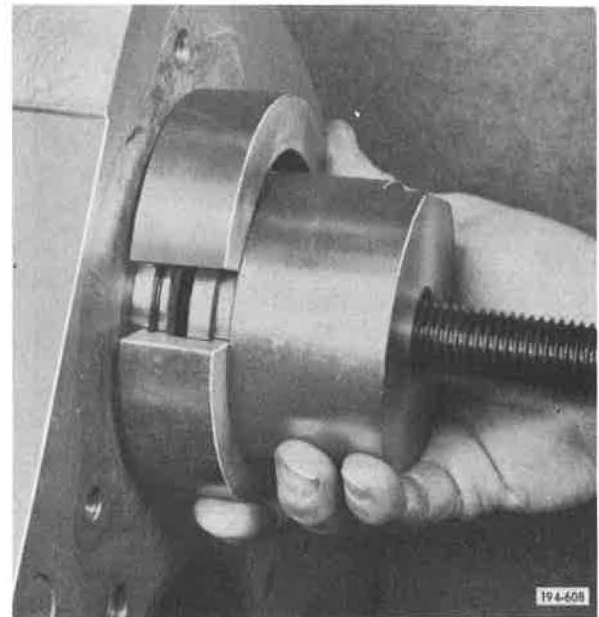

Figure 5-727. Installing Puller and Second Clamping Half
16. Install puller section of tool S593C and second clamping half. See Figure 5-727.